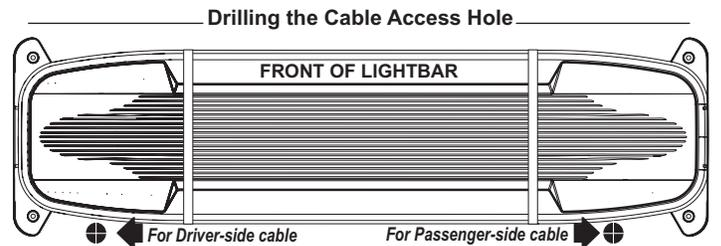

**Fig. 2**
5. Make sure the strap is in position on the edge of the roof and the other end lines up properly with the cage nut. Drill three pilot holes for a #10 screw through the three mounting holes in the strap and secure the strap with the three #10 X 1/2" PHILLIPS PAN HEAD SHEET METAL SCREWS. **Tighten the tension bolt to 30 in-lbs (or 2.5 ft-lbs)** to secure the foot to the vehicle (See Fig. 2). **IMPORTANT: You must use the supplied screws for mounting. The supplied screws will not react with the body of your vehicle.**
3. Position the lightbar on the vehicle centering the bar side to side. **NOTE: If your vehicle does not have a rubber strip in the rain gutter, insert the supplied spacer into the rain gutter where the mounting feet will sit.** Slide the end of the mounting strap (with the single hole) into the mounting foot as shown and loosely secure it to the foot with the tension bolt (Fig. 2).
4. Bring the outside of the mounting strap down to the edge of the vehicle roof. The outer end of the strap should hook around the roof (Fig. 2). Mounting straps are made for specific vehicles and the one designed for your vehicle will conform to the edge of that roof.